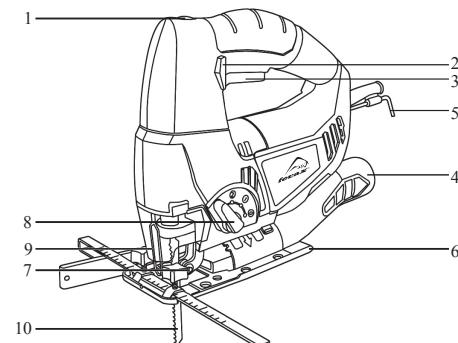

Fig. 1
4. PRODUKTINFORMASJON (Fig. 1)